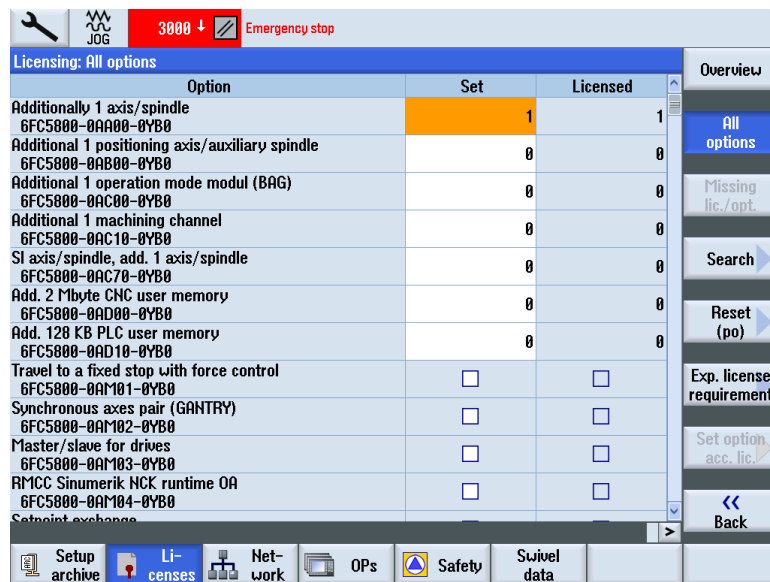

Figure 4
- Search for the particular option you want to activate. Set the box with the select key. See figure 4.